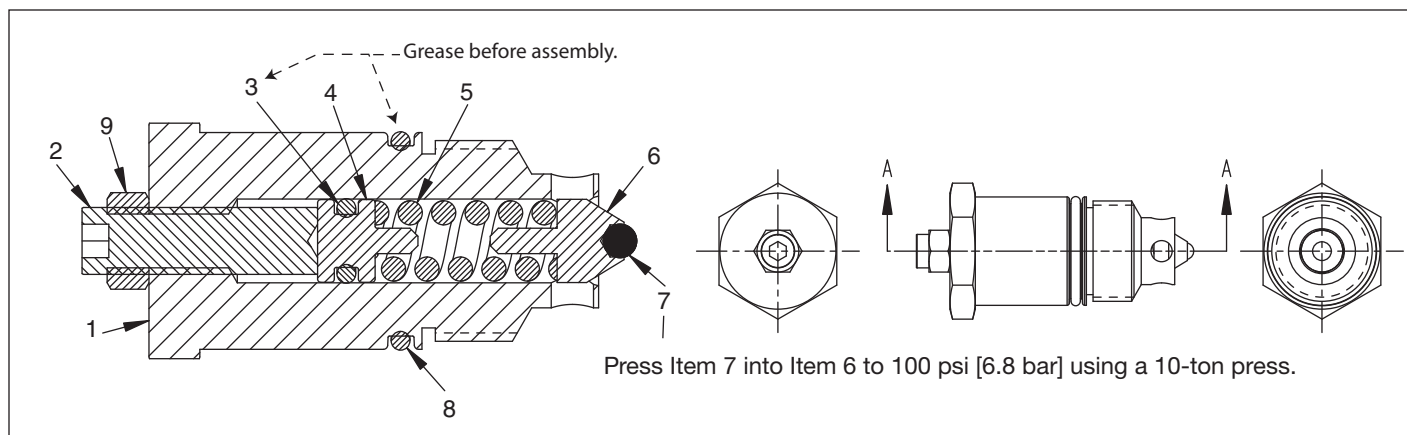
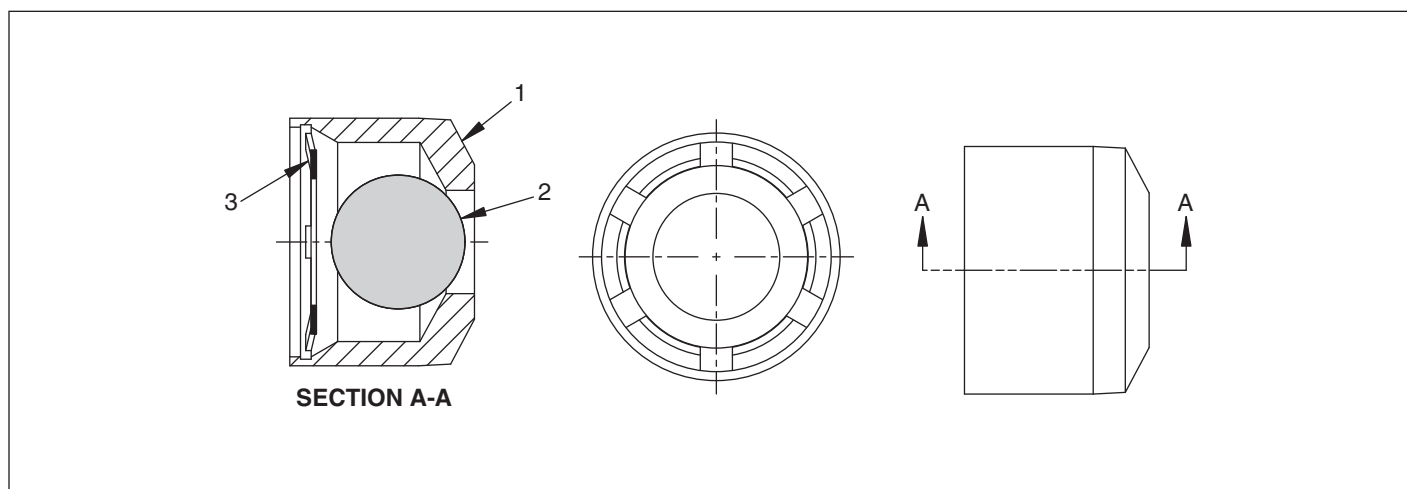

Figure 7, User-Adjustable Relief Valve Assembly
Figure 8, In-line Check Valve
Repair Parts List for Figure 7, DC5139900SR, User Adjustable Relief Valve Assembly
Repair Parts List for Figure 8, DC5140900SR, In-line Check Valve
1. Inability to obtain any pressure may be the result of damaged connector seals on the pump, or failed relief valve components (items 6, 7, figure 7) a damaged ball and seat in the body (items 1, 2, figure 8), or damaged or worn shear seals and disc (items 16, 18, 84, figure 1D). These problems are usually a symptom of contaminated hydraulic oil. The system should be drained and refilled with fresh ENERPAC hydraulic oil.
5. Leakage observed on the external surfaces around the relief valve body (item 1, figure 7) is an indication that the o-ring (item 8) needs to be replaced.
8. Remove the shaft assembly and inspect the o-ring (item 15) and backup ring (item 14) for damage. Replace if needed.
9. Remove the o-ring (item 10) and inspect for damage such as nicks or cuts. Replace if needed.
10. Remove the bearing (item 12) and bearing plate (item 11) and inspect for damage. Replace if needed.
11. Remove the shear seal assemblies (items 18-20 or 84-86) from the bores in the body.
12. Remove o-rings (item 20 or 86) and backup washers (item 19 or 85) and inspect for damage. Replace if needed.
13. Remove springs (item 22) and inspect for damage such as breakage or permanent set. Replace if needed.
15. Loosen lock nut (item 9, figure 7) and unscrew the set screw. (item 2).
17. Remove the seat (item 57) from the body.
19. Inspect the o-ring (item 8, figure 7) for damage and replace if necessary.
20. Inspect the ball (item 7) and guide (item 6). Replace if necessary.